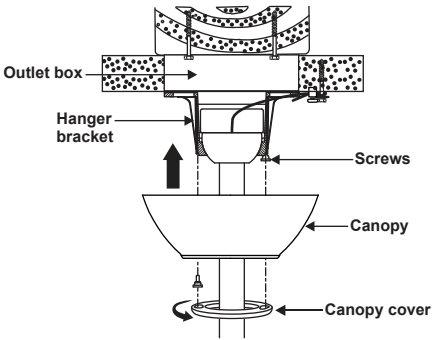

Figure 11
Step 2. Slide the canopy up to hanger bracket and place the key hole on the canopy over the screw on the hanger bracket, turn canopy until it locks in place at the narrow section of the key holes. (Fig.11)